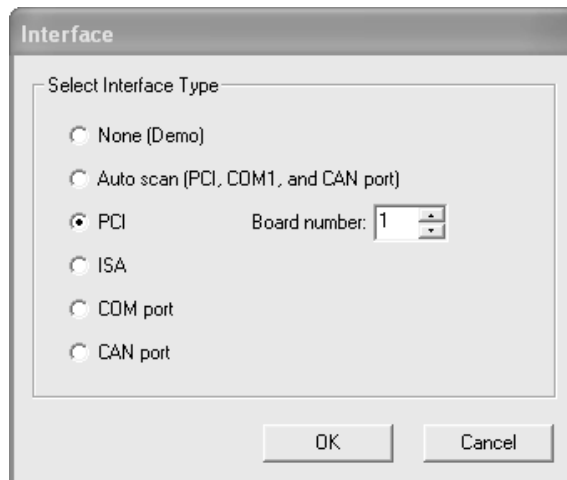

Figure 2-1:
- If Pro-Motion does not automatically establish communication with the Magellan-based product the Interface dialog box (Figure 2-1) is displayed.